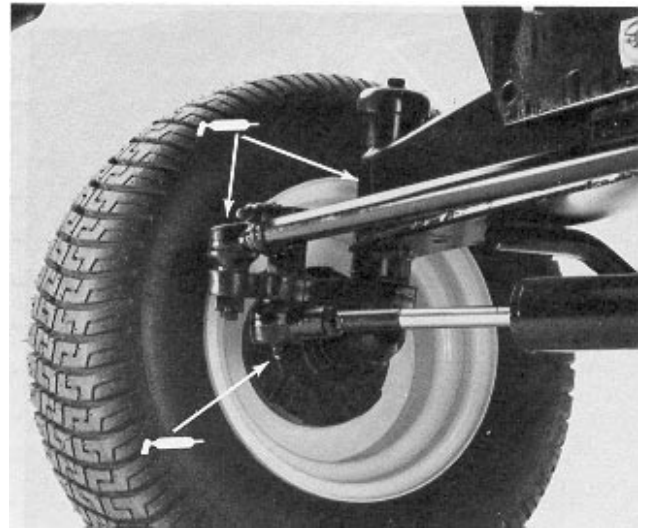

Figure 30
2 wheel drive machines only – cylinder end (2), center pivot (1), spindles (2), tie rod assembly (2) (Fig. 30).